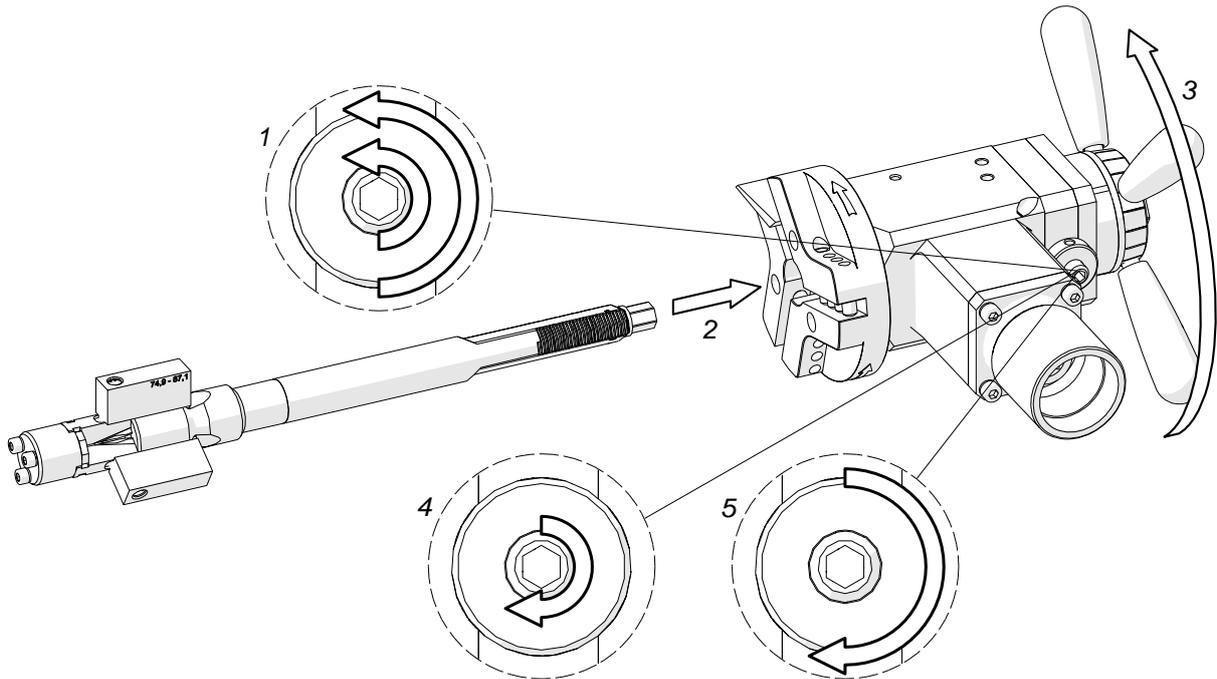

Fig. 3. Installing the mandrel into the machine
Loosen the nut and use the 6 mm hex wrench to loosen the set screw (1, Fig. 3), and insert the mandrel into the machine (2). Make sure that tool bits installed are not in contact with the mandrel. Next, rotate the spoke handles to the right (3) by at least 10 turns until the mandrel engages with the machine completely. Then, tighten the set screw (4) and check whether the spoke handles can be rotated in both directions easily. If the screw is too tight, readjust it. Finally, tighten the lock nut (5).
To remove the mandrel, loosen the nut and use the 6 mm hex wrench to loosen the set screw (1, Fig. 3) to at least one turn. Then, rotate the spoke handles to the left to disengage the mandrel from the machine.